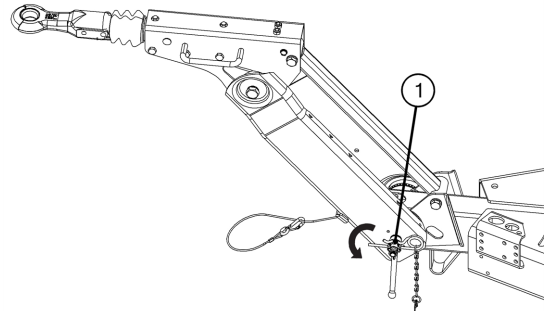

Figure 3 - Tow Head Adjustment
1. Turn the locking handle located on the side of the head, in an anticlockwise direction to allow the locking ring to disengage from its opposing ring (Figure 3, Item 1).